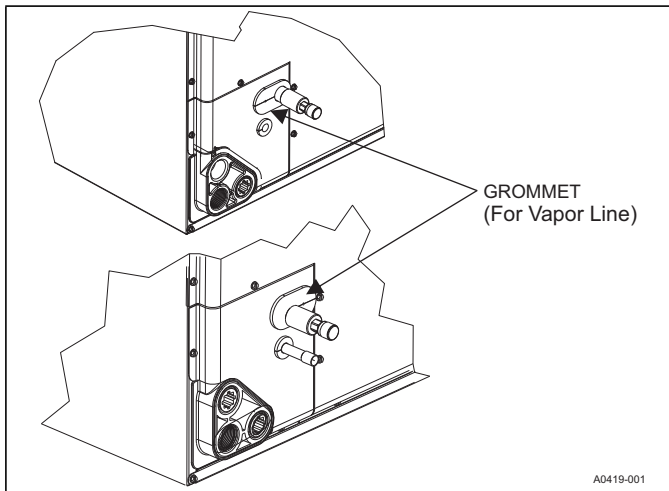

FIGURE 13: Vapor Line Grommet
2. Remove grommets where tubes exit the cabinet to prevent burning them during brazing. In some units, the vapor line grommet may be shipped as a loose part with the unit. Refer to Figure 13.
13. Re-attach the grommets to the lines carefully to prevent air leakage. In some units, the vapor line grommet may be shipped as a loose part with the unit. Refer to Figure 13.